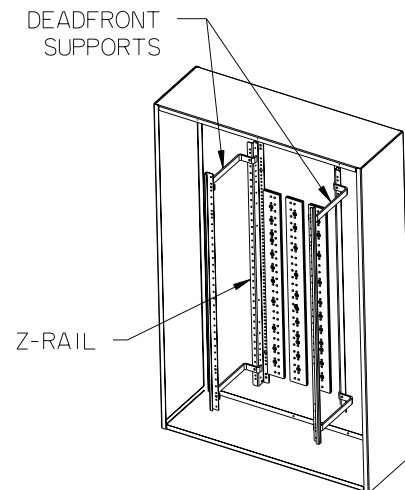
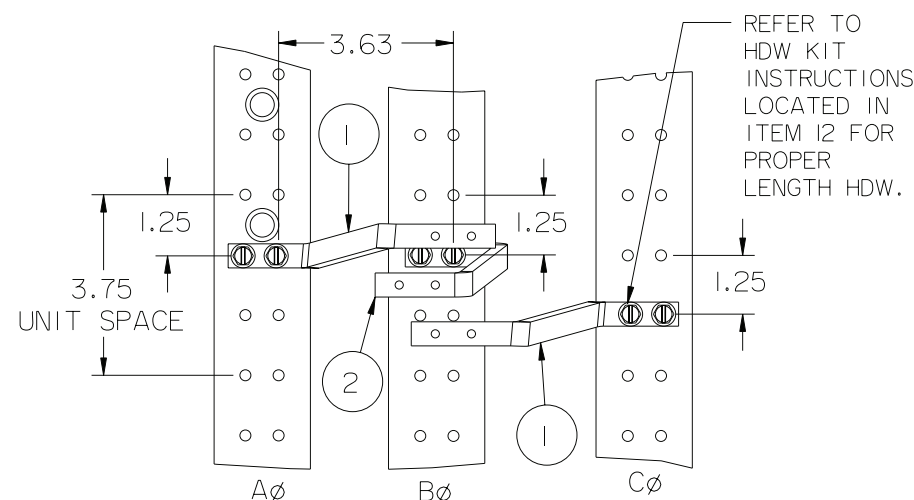

Figure 2
Figure 4
3. Reference fig. 2 - To mount an EB circuit breaker, 3-3/4" of empty unit space is required. To locate the mounting position, measure from the top deadfront support to the top of the empty unit space filler on the deadfront. Transfer this dimension from the deadfront support along the z-rail and mark. This will be the unit space as shown on fig. 4. After marking the z-rail, remove the deadfront.
5. Reference fig. 4 - Installing the branch bus. Locate two 0.228" diameter holes in the Aø bus 1-1/4" down from the top of the 3-3/4" empty unit space selected. Insert two 1/4-20 thread-forming screws (see mounting hardware kit instructions located in item 12 for the proper length) through two 0.281" diameter holes in the A/C strap (item 1) and into the two selected holes in the Aø bus (orienting the A/C strap as shown) and tighten. Repeat this step to mount the second branch to the Cø bus using two 0.228" diameter holes 1-1/4" down from the holes used on the Aø bus and tighten. Insert two more 1/4-20 thread-forming screws through the 0.281" diameter holes in the Bø strap (item 2) and into the 0.228" holes located in the Bø bus, 1-1/4" down from the top of the 3-3/4" empty unit space used on the Aø bus (orienting the Bø strap as shown) and tighten. Torque all hardware as specified on the rear of the deadfront.